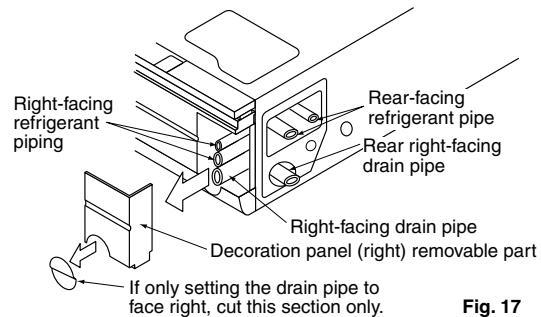
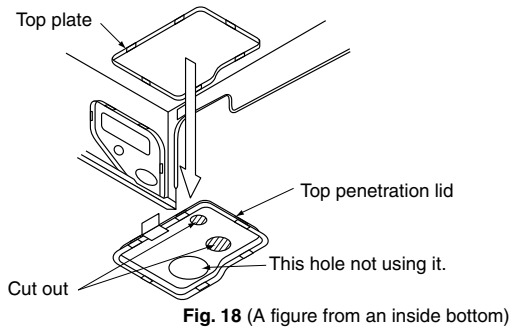

Fig. 17
Fig. 18 (A figure from an inside bottom)
- (1) For piping facing back.**
- Remove the rear metal plate for pipe. (Refer to Fig. 17)
- (2) For piping facing up.**
- Removing the top penetration lid and use the L-shaped branch pipe kit sold separately to set the pipe. (Refer to Fig. 18, 19)
- (3) For piping facing right.**
- Cut out a slit hole on the decoration panel (right) and set the pipe. (Refer to Fig. 17)
- As when before removing the top penetration lid, secure the lead lines for the swing motor and thermistor by passing them through the clamp section on the top penetration lid. (Refer to Fig. 18, 20)